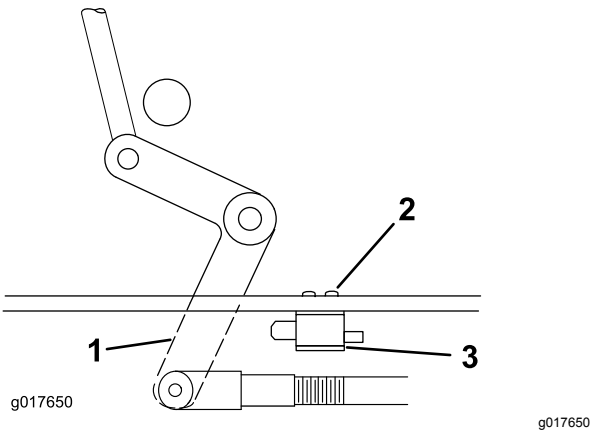

Figure 47
4. If needed, adjust the blade-safety switch by loosening the bolts holding the switch bracket (Figure 47).
5. Move the mounting bracket until the bellcrank presses the plunger by 6 mm (1/4 inch); refer to (Figure 47).
1. Inspect the cutting edges (Figure 47).
4. If you notice any cracks, wear, or a slot forming in this area, immediately install a new blade (Figure 47).